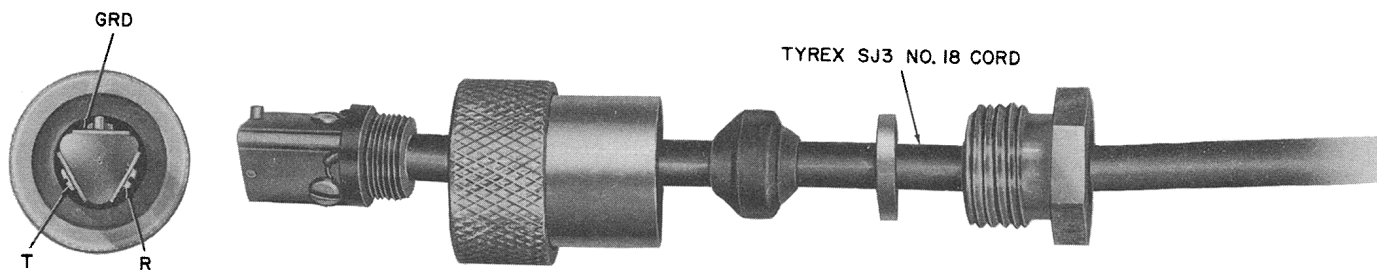

Fig. 8 — KS-8419 Plug
2.08 The KS-8419 plug (Fig. 8) is a 3-contact, brass plug intended for connecting telephone sets installed on boats, trains, or auto trailers to the outlets of central office lines. This plug is intended for use with KS-8420 or KS-8421 jacks.